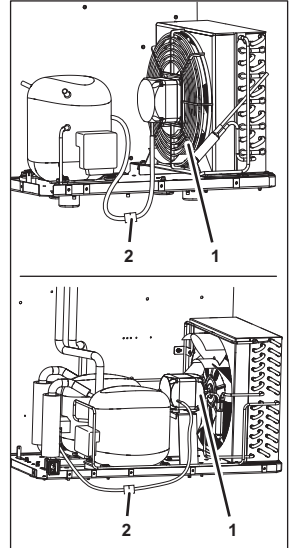

Figure 122
1. Disconnect the plug (Figure 122/2) from the fan (Figure 122/1).
10. Connect the plug (Figure 122/2) to the fan (Figure 122/1).